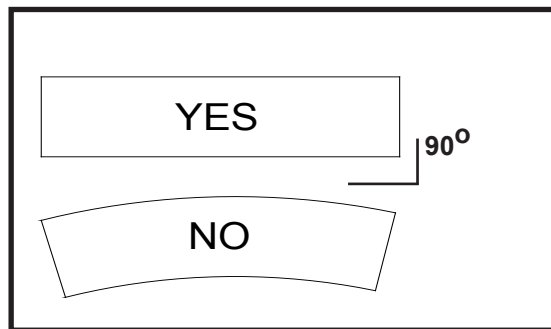

FIGURE 4
2. As a double check, lay out belt on a level surface and pull tight. The belt should lay flat and be in a straight line. See FIGURE 4. At this time recheck belt ends to ensure that they were cut squarely and that the lacing was installed properly.